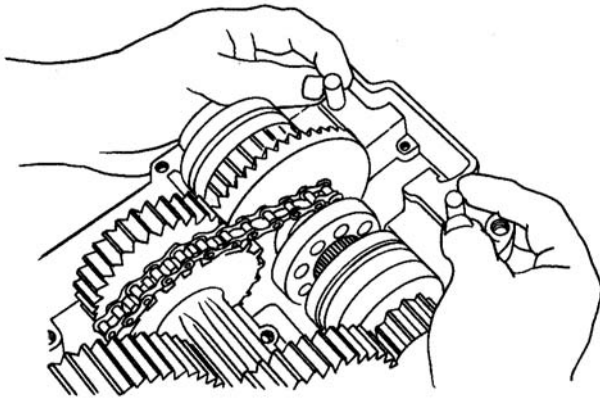

Figure 5-58. Placing Pins in Housing
6. First place the pins into the housing. See Figure 5-58.